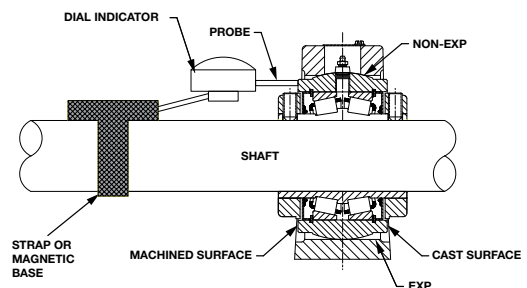

Figure 1 - S-1 Unit
- Mount a dial indicator on the shaft near the non-expansion (fixed) bearing. Place the indicator probe so that it contacts the machined surface of the S-1 Unit Housing perpendicular to that surface. See Figure 1. Note that only one face of the S-1 Unit is a machined face.